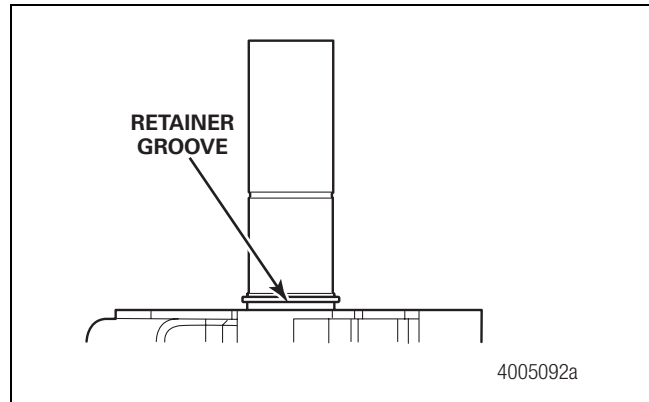
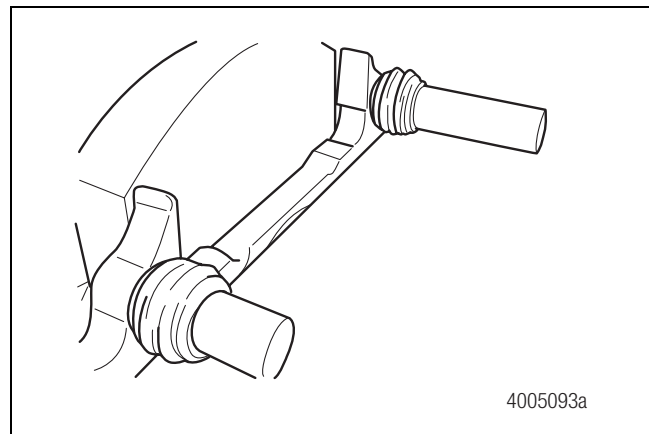

Figure 5.44
Figure 5.45
2. Slide the new slide pin boots over the slide pins. Verify that the slide pin boot bead is in the slide pin retainer groove. Figure 5.44 and Figure 5.45.